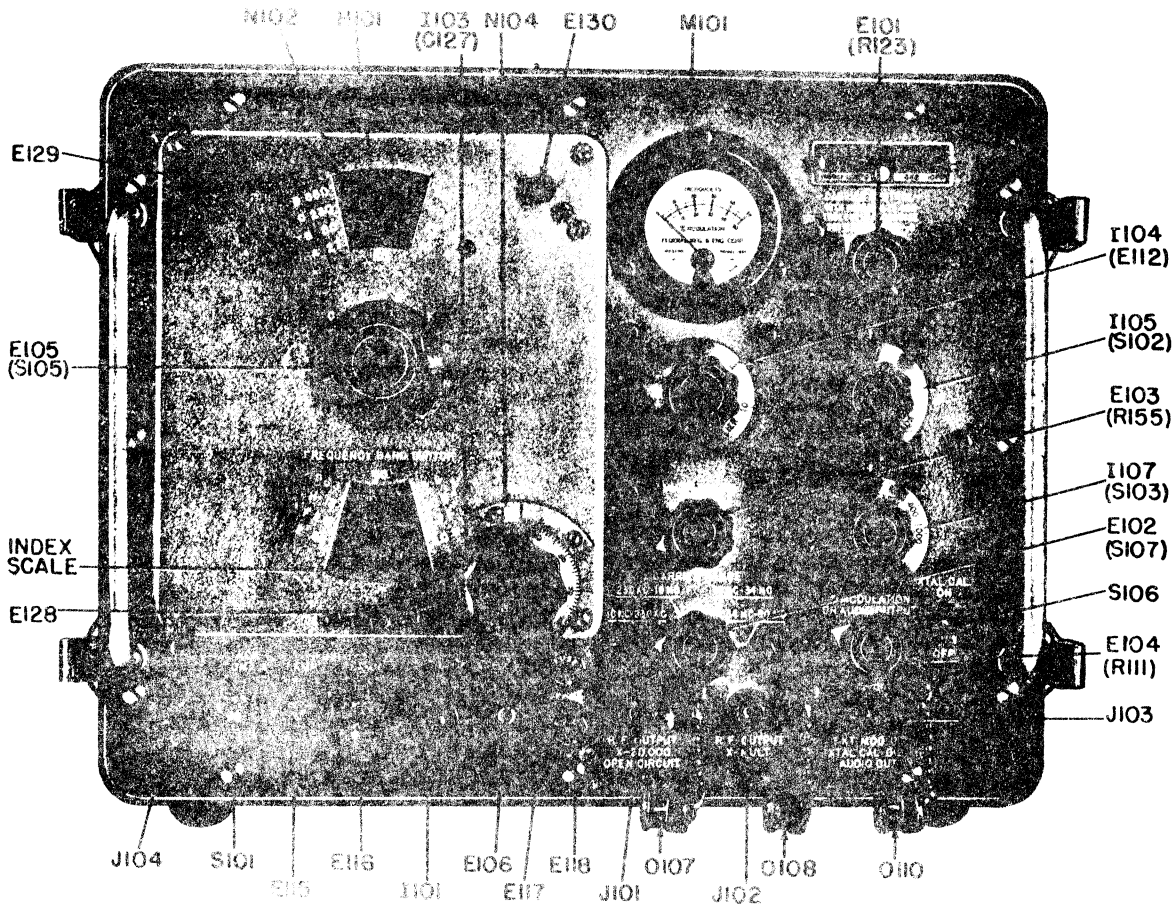

Figure 4-1. RF Signal Generator SG-44C/URM-25, Front Panel Diagram
c. The following preliminary settings and checks are required prior to placing the equipment in operation (See figure 4-1).
- (1) Turn POWER switch (S-101) to OFF position
- (2) Turn CARRIER CONTROL E-101 to the fully counterclockwise position.
- (3) Plug power cable W-101 into power receptacle J-104
- (4) Insert other end of power cable W-101 into 115 volt AC source.
b. The following preliminary checks and adjustments may be required in zero setting the meter (M-101). All symbols designations in this paragraph refer to Section 4, figure 4-1.
(1) Turn CARRIER CONTROL E-101 and % MODULATION control E-104 to the fully counterclockwise positions.
(2) Turn the signal generator on by placing POWER switch S-101 to the ON position. (Allow a 15 minute warm-up period).
(3) Set METER READS dial I-105 first in the RF position and then in % MOD and BAL positions. Meter M-101 should read zero in all positions.
(4) If the meter does not read zero, follow the meter calibration procedure outlined in Section 6, par. 10.
All reference to symbol designations in this section apply to the front panel diagram Figure 4-1 unless otherwise specified. Primary reference is made to the symbol designation of the front panel knob (i.e. E-101) applicable to the specific circuit element (i.e. R-123). The association between the knob and circuit part is shown on Figure 4-1 by indicating the corresponding circuit element designation following the knob symbol (i.e. E-101 (R-123)).
**TABLE 4-1. OPERATIONAL SUMMARY OF FRONT PANEL CONTROLS (See figure 4-1)**